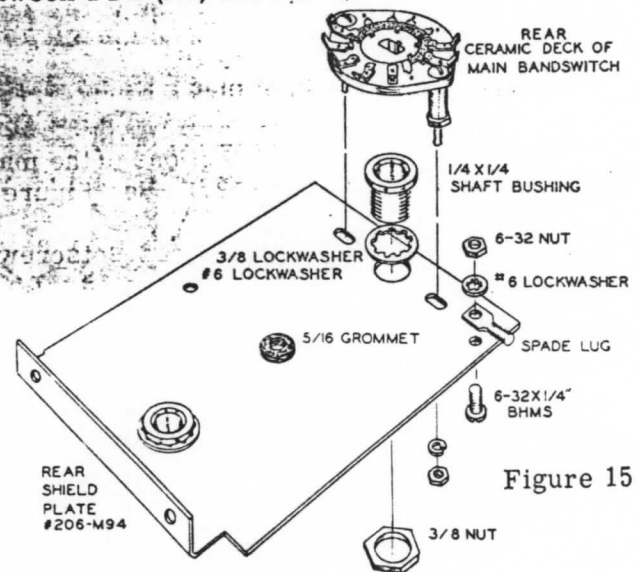

Figure 15
- (✓) Locate the rear shield plate (#206-M94) and, referring to Figure 15, mount a 1/4" x 1/4" shaft bushing in the hole farthest from the flange on the rear shield plate as shown. Using a 3/8" lockwasher, secure the bushing with a 3/8" control nut on the opposite side.
- (✓) Locate the ceramic rear deck of the main band switch (#63-179) and mount it over the bushing on the flanged side of the shield with the switch studs through the slotted holes. Use the hardware provided with the switch. Observe the position of switch lugs as shown in Figure 15. Secure the studs temporarily.
- () Slide the rear portion of the band switch shaft through the rear shield plate bushing as shown, then through the rotor of the ceramic band switch deck. (Do not force - if necessary loosen the ceramic deck studs and retighten.) Be sure all decks are positioned as shown in Figures 15 and 16 and the key mark openings in all rotors point away from the rear shield flanges. Tighten the ceramic switch studs after shaft alignment.